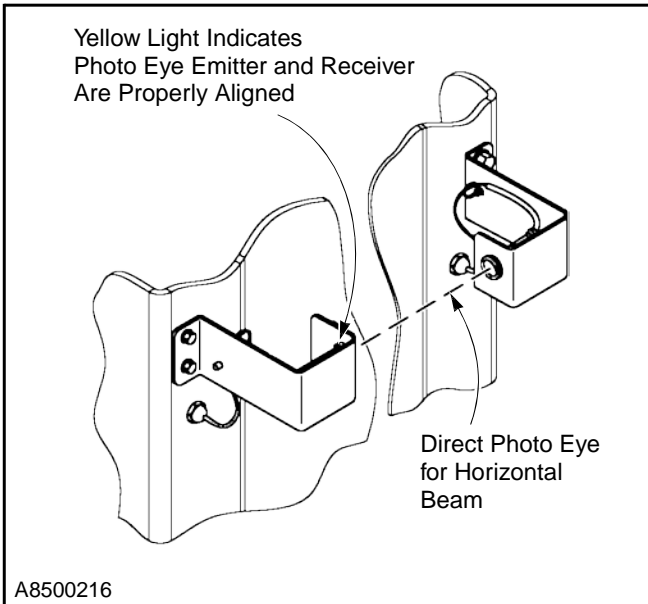

Figure 35
1. Verify that the photo eye emitter mounted on the front side of the door is aligned with the receiver on the opposite side of the door opening. The yellow light on the photo eye receiver will light when the emitter and receiver are properly aligned. (See Figure 35)